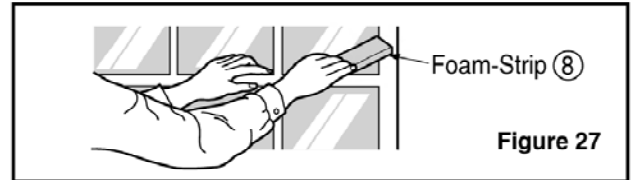

Figure 27
11. Cut the foam-strip ⑧ to the proper length and insert between the upper and lower window sash. (See Fig. 27)